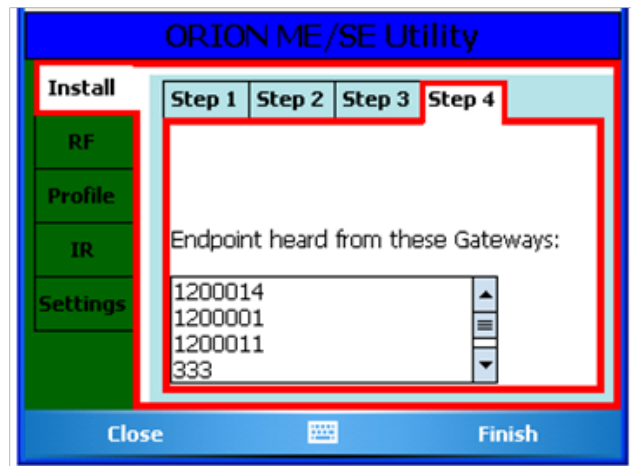

Figure 59: Step 4
Step 4 - The endpoint heard from the gateways are listed as shown in Figure 59. Tap **Finish**.